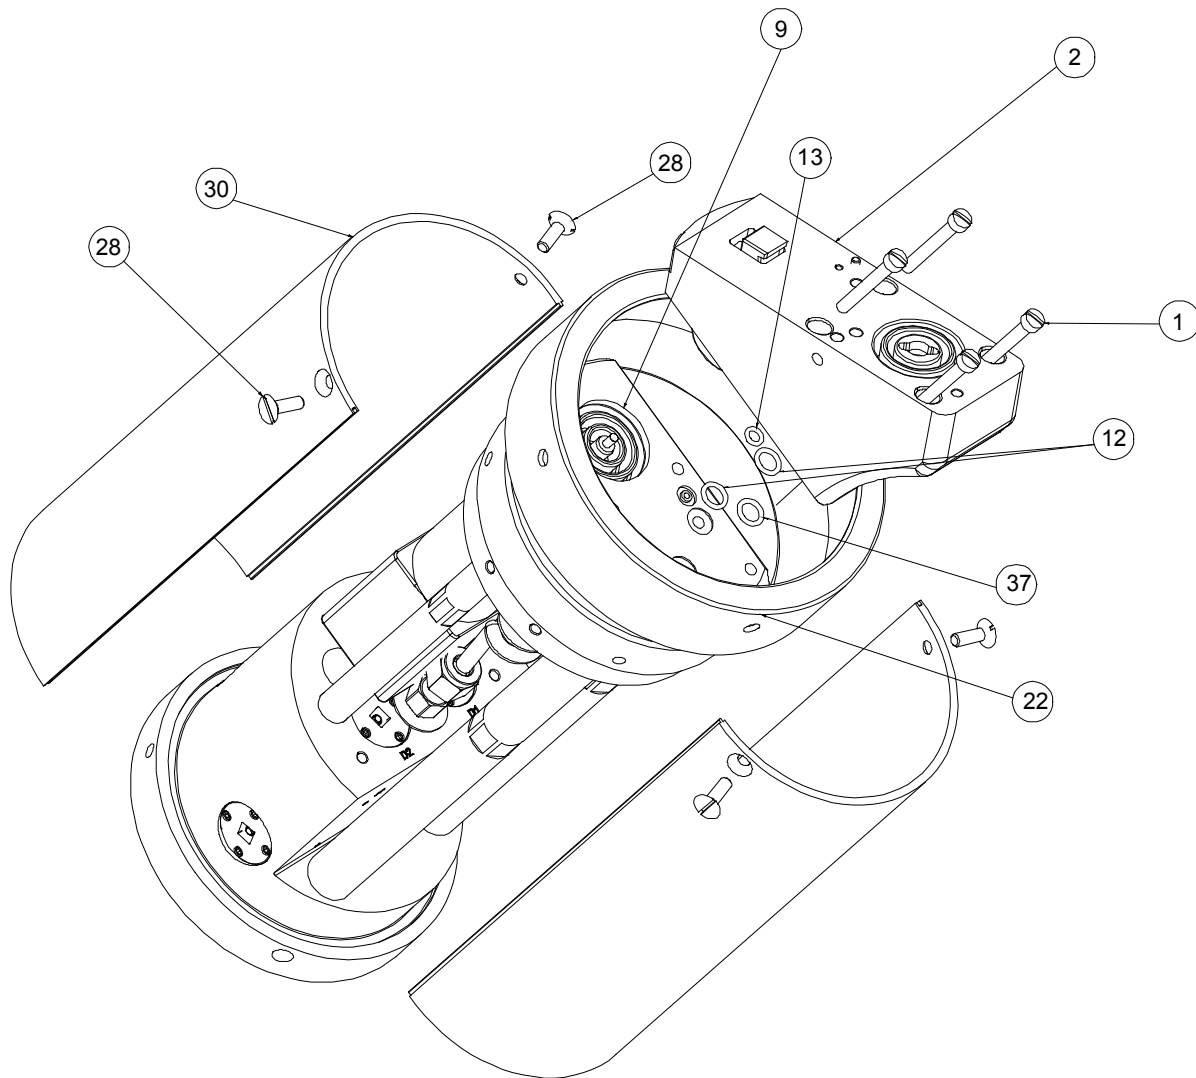
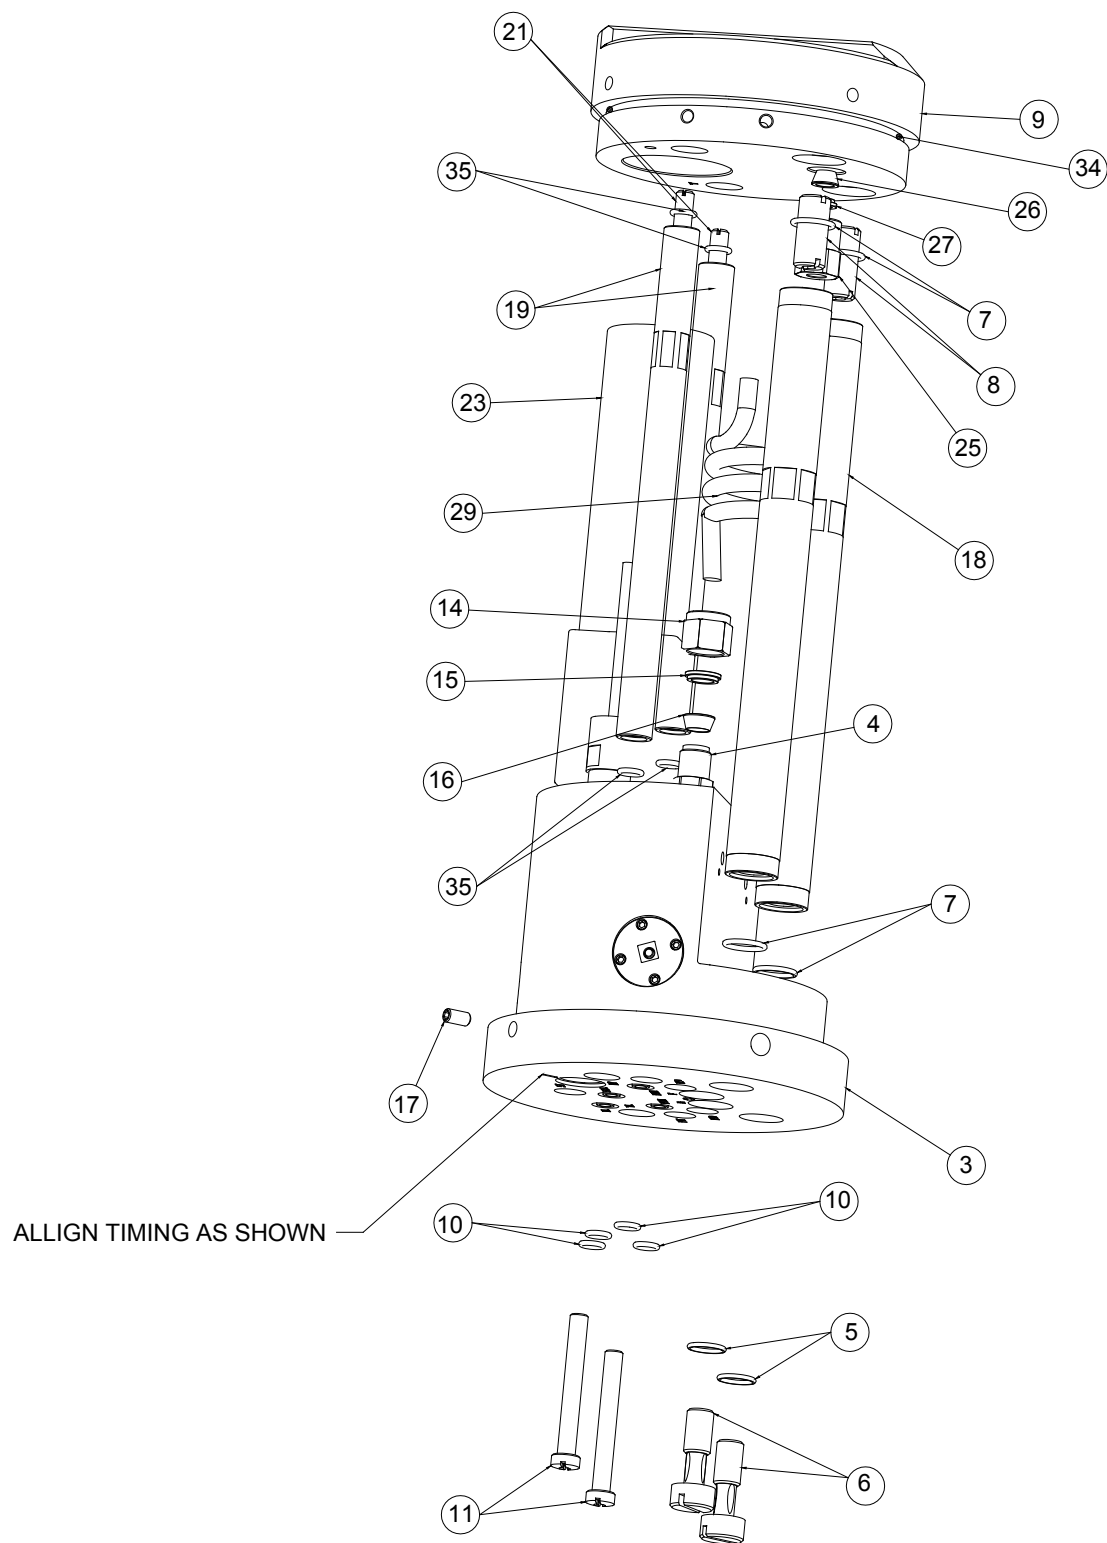
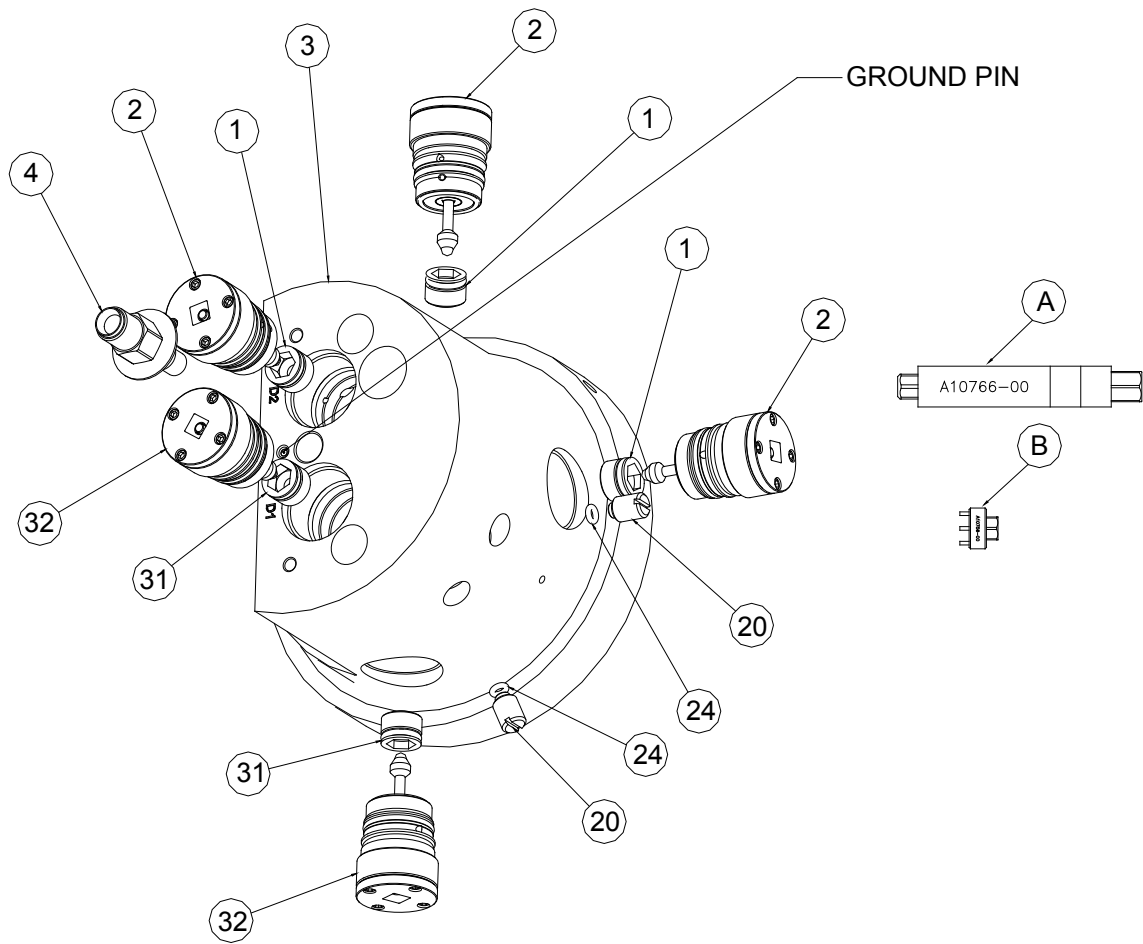

Figure 11: Mounting Block, Shroud Halves, and Retaining Ring Removal
Figure 12: Disassembly of Intermediate Gun Housing
Figure 13: Valve Manifold Disassembly
Gun Disassembly (See Figures 11, 12, and 13)
5. Remove four (4) screws [1] from mounting block and pull block out of the upper manifold [9] as shown in Figure 11.
6. Remove and inspect the o-rings [12, 13, and 37]. Replace if necessary (see Figure 11).
7. Remove retaining ring [22] by pulling straight up as shown in Figure 11.
8. Remove the four (4) screws [28] from the shroud halves. Carefully pry the shroud halves [30] apart by placing a thin blade screwdriver in slot. Pull the shroud half out at the top and up from the valve manifold [3].
10. Remove the two (2) screws [6] and the two (2) screws [11] from the bottom of the valve body [3] (see Figure 12). Inspect the two (2) o-rings [5] located within the screws [6] and replace if necessary.
11. Carefully pull upward on the head manifold block [9] which will disengage from the bottom valve assembly block [3]. Inspect o-rings [7] and [34], replace if necessary (see Figure 12).
12. Remove the two (2) connecting air rods [18] and the two (2) trigger tie rods [19] by unscrewing counter-clockwise. Remove and inspect the four (4) studs [8] and [21] and the o-rings [35] and [7] and replace if necessary.
16. Refer to Figure 13 to remove dump and pilot valves. Using the valve removal tool [A], remove the valve assemblies [2] and [32] by turning counter-clockwise. Also use the same tool to remove the seat [1]. When replacing parts lubricate o-rings. Torque both the valve and seat to 15-20 lbs•in (1.7 - 2.0 Nm).
MOUNTING BLOCK, SHROUD HALVES, AND RETAINING RING REMOVAL - PARTS LIST (Figure 11)
INTERMEDIATE GUN HOUSING - PARTS LIST (Figure 12)
VALVE MANIFOLD DISASSEMBLY - PARTS LIST (Figure 13)